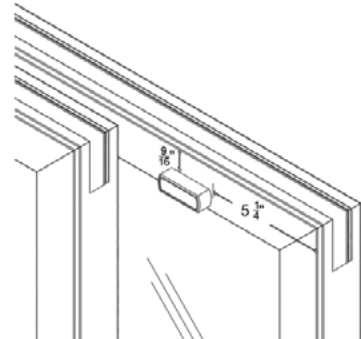

Figure 27
44. Pre-drill two 5/32" (0.156") pilot holes on the inside of each operable panel 5-1/4" in from the right side of the panel and 9/16" down from the top of the panel to the edges of the come-along base (Figure 27). Attach the panel come-along (Item 26) using two screws (Item 45). Snap the panel come-along cover over the come-along base.